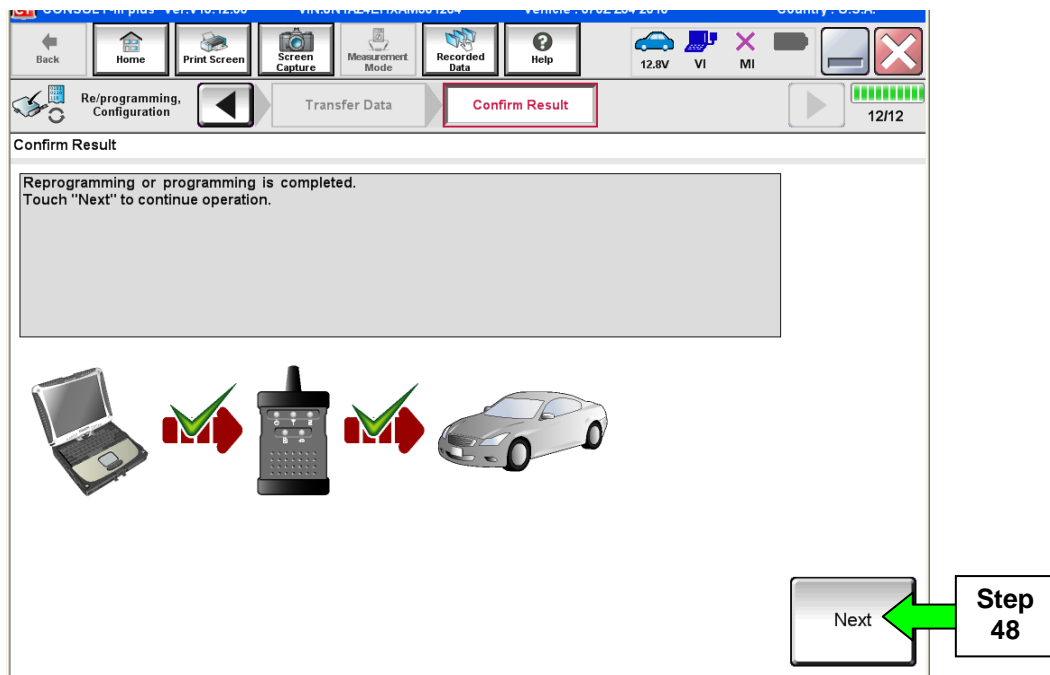

Figure 16
28. When the screen in Figure 16 below displays, software download is complete.
NOTE: If the screen in Figure 16 does not display (software download does not complete), refer to the information on the next page.